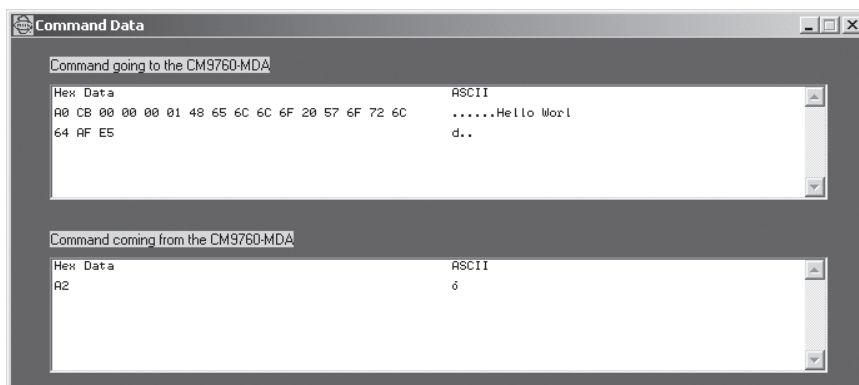

Figure 34. Sample Command Data Window
Figure 34 provides a sample of a Command Data window. The message *Hello World* was sent from the PC to the MDA using the Send Row 1 command button.
- When the MDA acknowledges the command that was sent to it, the MDA responds by sending *A2* as shown in Figure 34. If the MDA does not acknowledge the command that was sent to it, the MDA responds by sending *A4*.